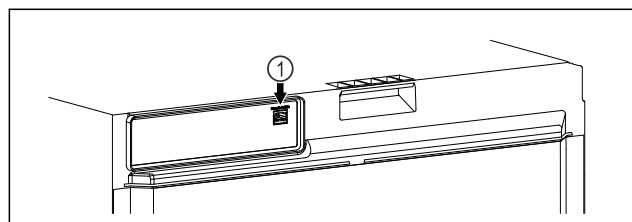

Fig. 109
- SmartModule Fig. 109 (1) has been inserted.